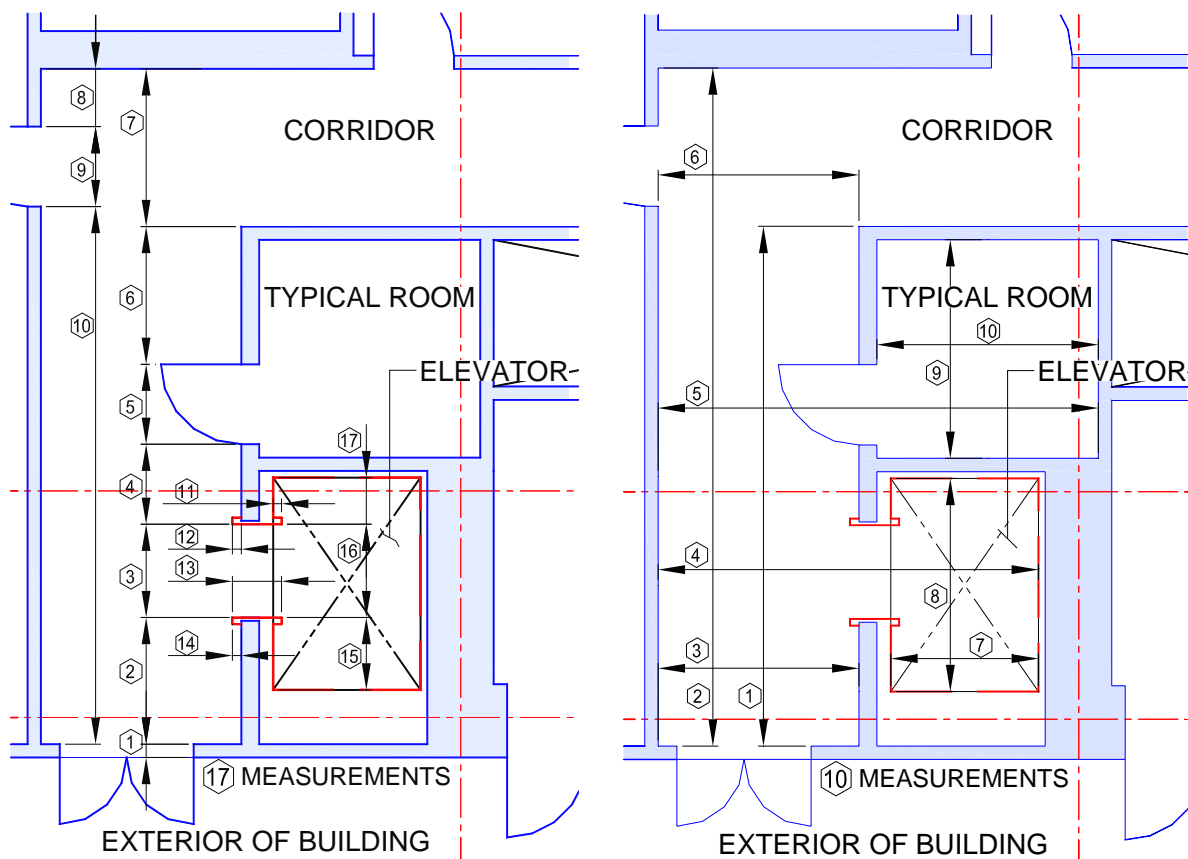
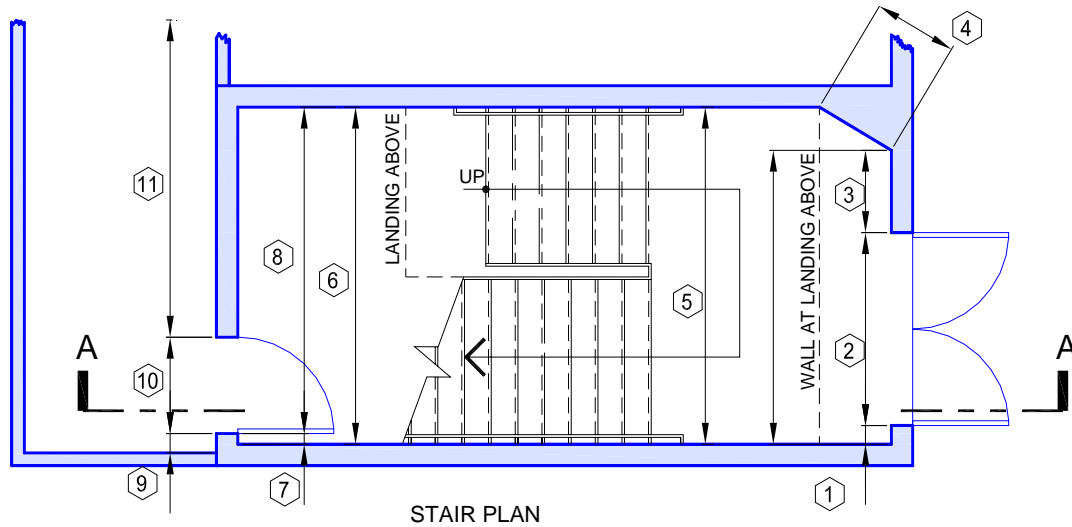

Figure 6: Elevator as Datum
Figure 7: Stair Plan
Align floors, above to below, using elevators (Fig. 6), and/or stairs (Fig. 7), as a guide. Measuring correctly to vertically line up multiple floors is critical.
Refer to Figure 6 below for illustrations of critical measurements inside and outside an elevator that are to be used for vertical floor alignments.
Notice that the inside of the elevator cab is a vertical link to the floor levels above and below. In order to utilize this with accuracy, one must follow the concept as illustrated in these figures. In Figure 6, the elevator cab is linked to the outside surface of an exterior wall. In addition, these drawings show how wall thickness can be determined, and also apparent redundancy can help verify measurements later in the office.
- See Figures 6, 9, and 10, for one or more methods to determine the wall thickness.